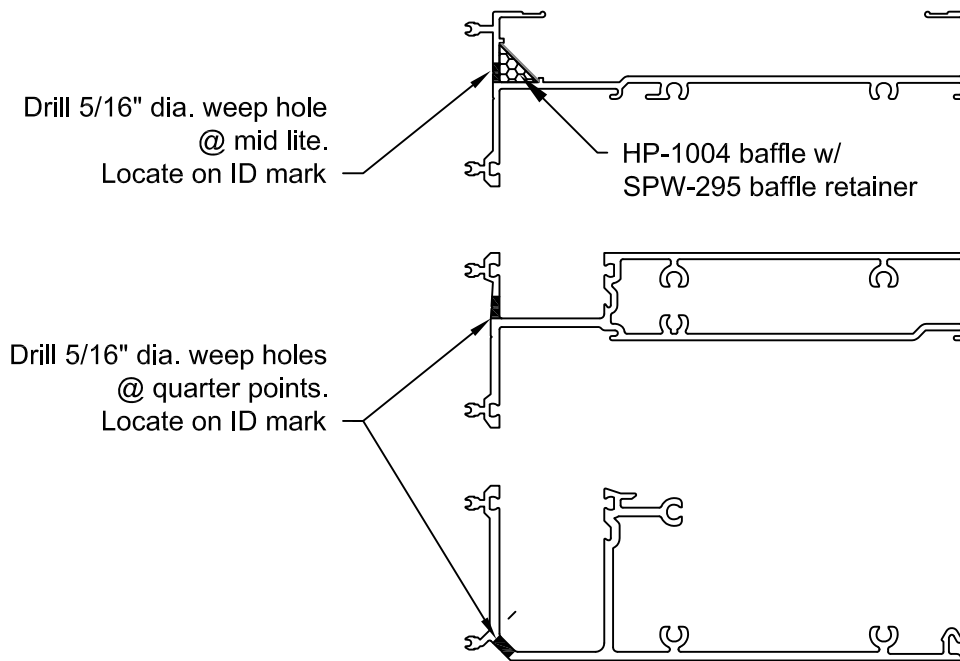

FIGURE 3
- 1.4 Drill 5/16" dia. weep holes at 1/4 points in horizontal and sill members as shown in FIGURE 3, page 7. Where incidental water control is required, drill one 5/16" diameter weep hole at mid-life of head member. Locate HP-1004 baffle and snap SPW-295 baffle retainer behind weep hole. See FIGURE 3, page 7.